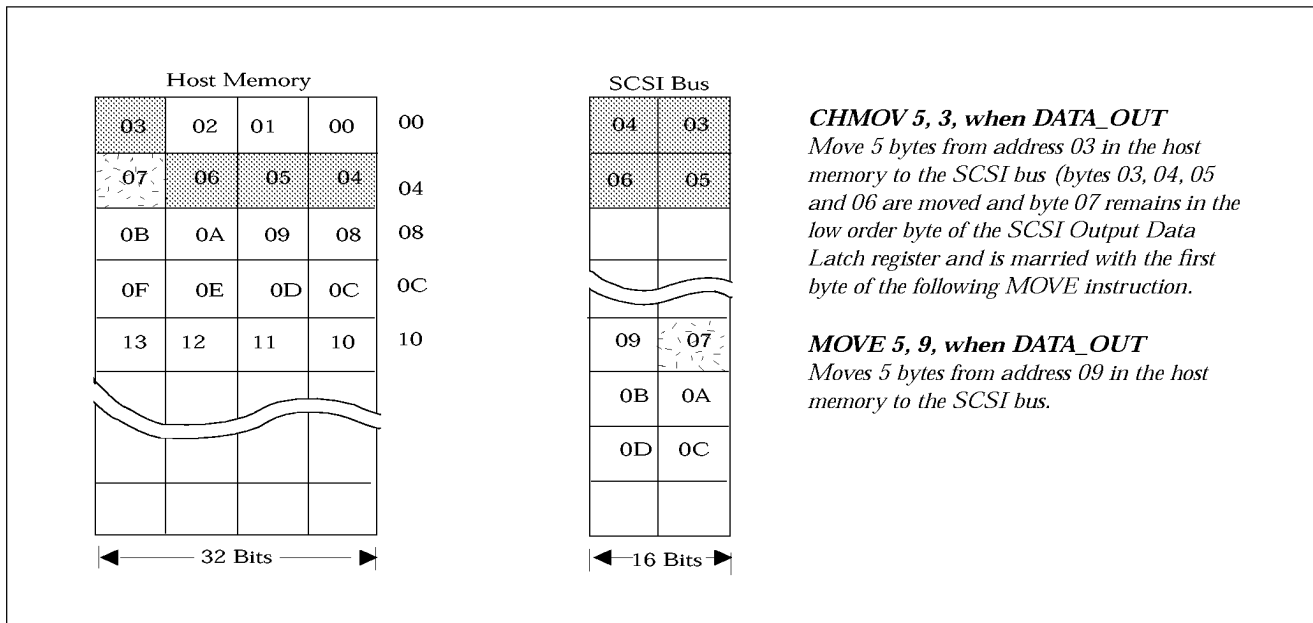

Figure 5-2: Block Move and Chained Block Move Instructions
4. The SYM53C770 transfers the number of bytes specified in the DBC register starting at the address specified in the DNAD register. If the Op Code bit is set and a data transfer ends on an odd byte boundary, the SYM53C770 will store the last byte in the SWIDE register during a receive operation or in the SODL register during a send operation. This byte will be combined with the first byte from the subsequent transfer so that a wide transfer can be completed. See Figure 5-2.
4. If the SCSI phase bits match the value stored in the SSTAT1 register, the SYM53C770 will transfer the number of bytes specified in the DBC register starting at the address pointed to by the DNAD register. If the op code bit is cleared and a data transfer ends on an odd byte boundary, the SYM53C770 will store the last byte in the SCSIWide Residue Data Register during a receive operation, or in the SCSI Output Data Latch Register during a send operation. This byte will be combined with the first byte from the subsequent transfer so that a wide transfer can be completed. See Figure 5-2.